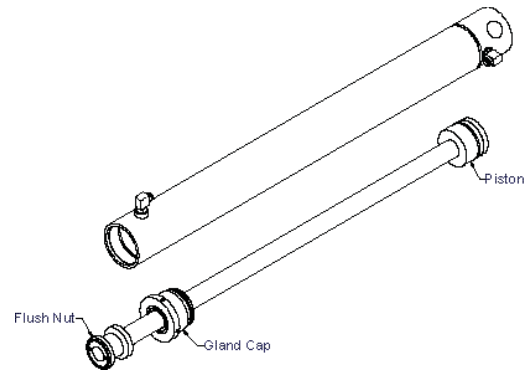

Figure 5-4, Cylinder Rebuild
3. Use a spanner wrench or similar tool to unscrew the gland cap from the cylinder tube. (Figure 5-4)
6. Remove the piston retaining nut and remove the piston. (Figure 5-4)